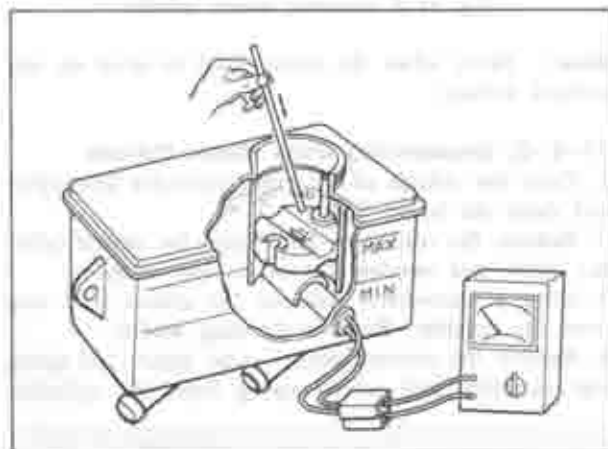

Fig. 11-7 Check fluid level sensor
- Connect the circuit tester to the coupler and check the continuity by moving the float up and down as shown in Fig. 11-7.